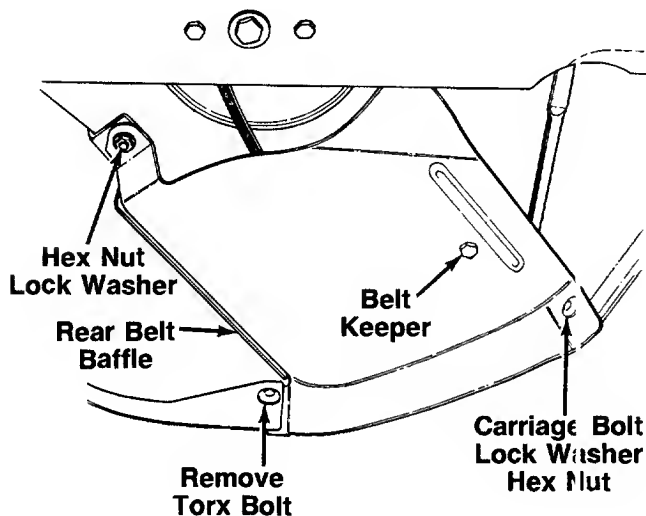

FIGURE 24.
4. Remove the rear belt baffle by removing the lock washer and hex nut shown in figure 24. Then remove one Torx bolt, using a #27 Torx driver. A 9/64" Allen wrench may also be used. Then remove one carriage bolt, lock washer and nut as shown.
NOTE: When reassembling the rear belt baffle, make certain the belt keeper is outside of the belt, and the edge of the rear belt baffle is between the rear chute baffle and the rear panel as shown in figure 24. Make certain to tighten all nuts and bolts securely. If plastic was placed under the gas cap, be certain to remove it.